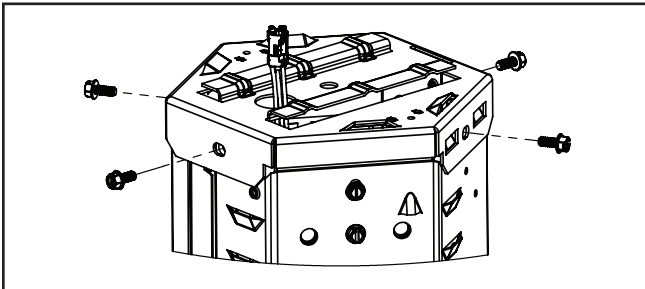

Figure 4.
4. Fasten (4) screws provided for a torque of 10 lb-in. (Figure 4.)